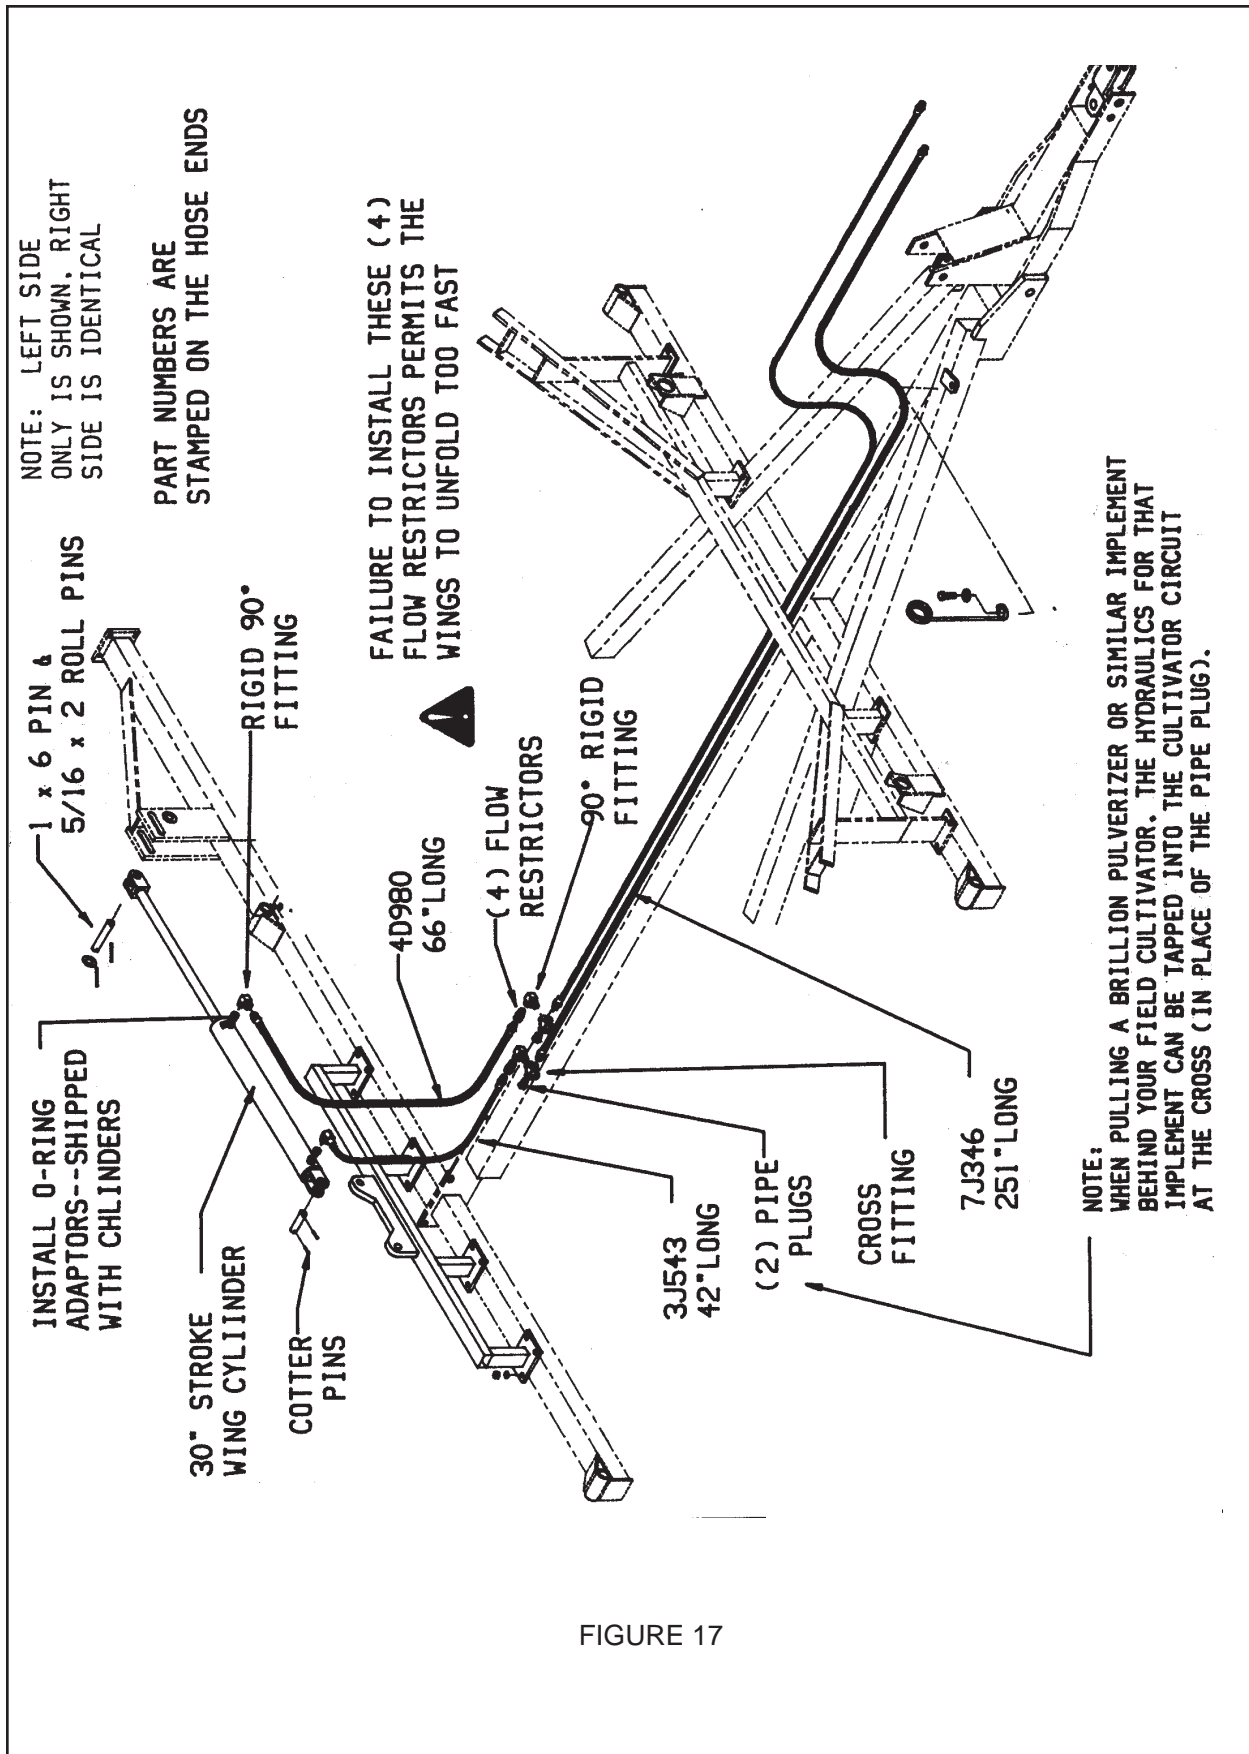

FIGURE 17
- B. Secure the cylinder anchor to the rear frame tubes with (8) 5/8" diameter x 4" wide x 4 1/2" deep U-bolts, lockwashers and nuts.
- D. Extend the cylinder, and attach the clevis end between the two lugs on the wings. Use a 1" diameter x 6" long pin, (2) 1" diameter flat washers, and (2) 5/16" diameter x 2" long roll pins to attach the clevis.
- B. Use (4) 5/8" diameter x 4" wide x 4 1/2" deep U-bolts to fasten the wing supports to the front tube of the center frame. Secure with lockwashers and nuts.
- A. Connect the hydraulic hoses and fittings as shown in figures 17, 18, and 19 and in the repair parts catalog on pages 14, 16, and 18. Secure the hoses with the plastic cable ties where indicated. Part numbers of the hoses are stamped on the hose ends.